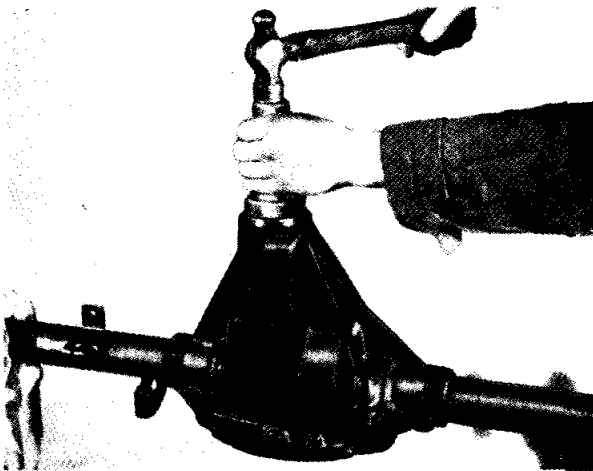

Fig. 26 Fitting pinion housing oil seal utilising Churchill Tool No. M100.
- (xii) When the correct pinion pre-load is obtained remove driving flange and fit the oil seal (Fig. 26), after which the